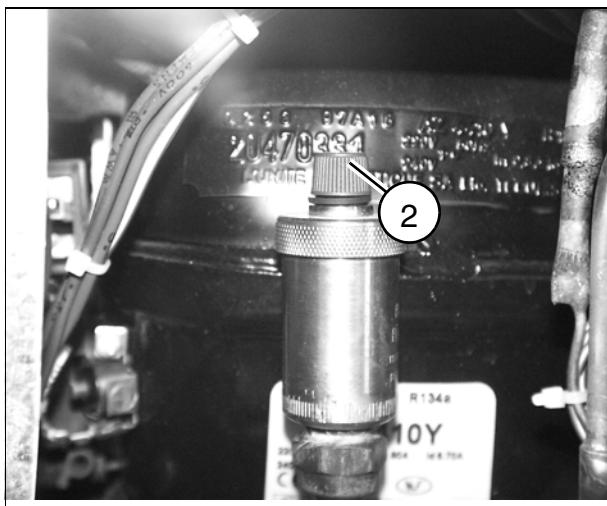

Fig. 3
- Open the pressure relief valve (cap) in the cooling device and back it off by two full turns (2/Fig. 3).